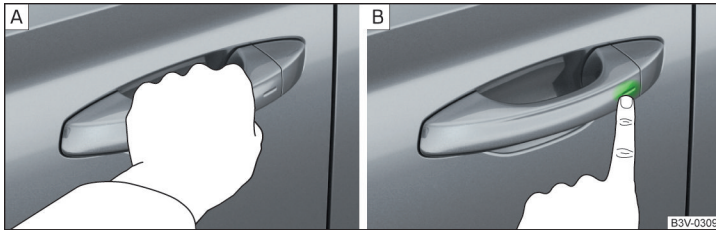

Fig. 52 Vehicle unlocking / vehicle locking
- Grip the door handle to **unlock** the vehicle » Fig. 52 - [A].
- Touch the sensor on the door handle with your finger to **lock** » Fig. 52 - [B] the vehicle.
- Within 5 s, touch the sensor on the door handle with your finger » Fig. 52 on page 59 - [B]. Deactivation is confirmed by a single flash of the direction indicators.